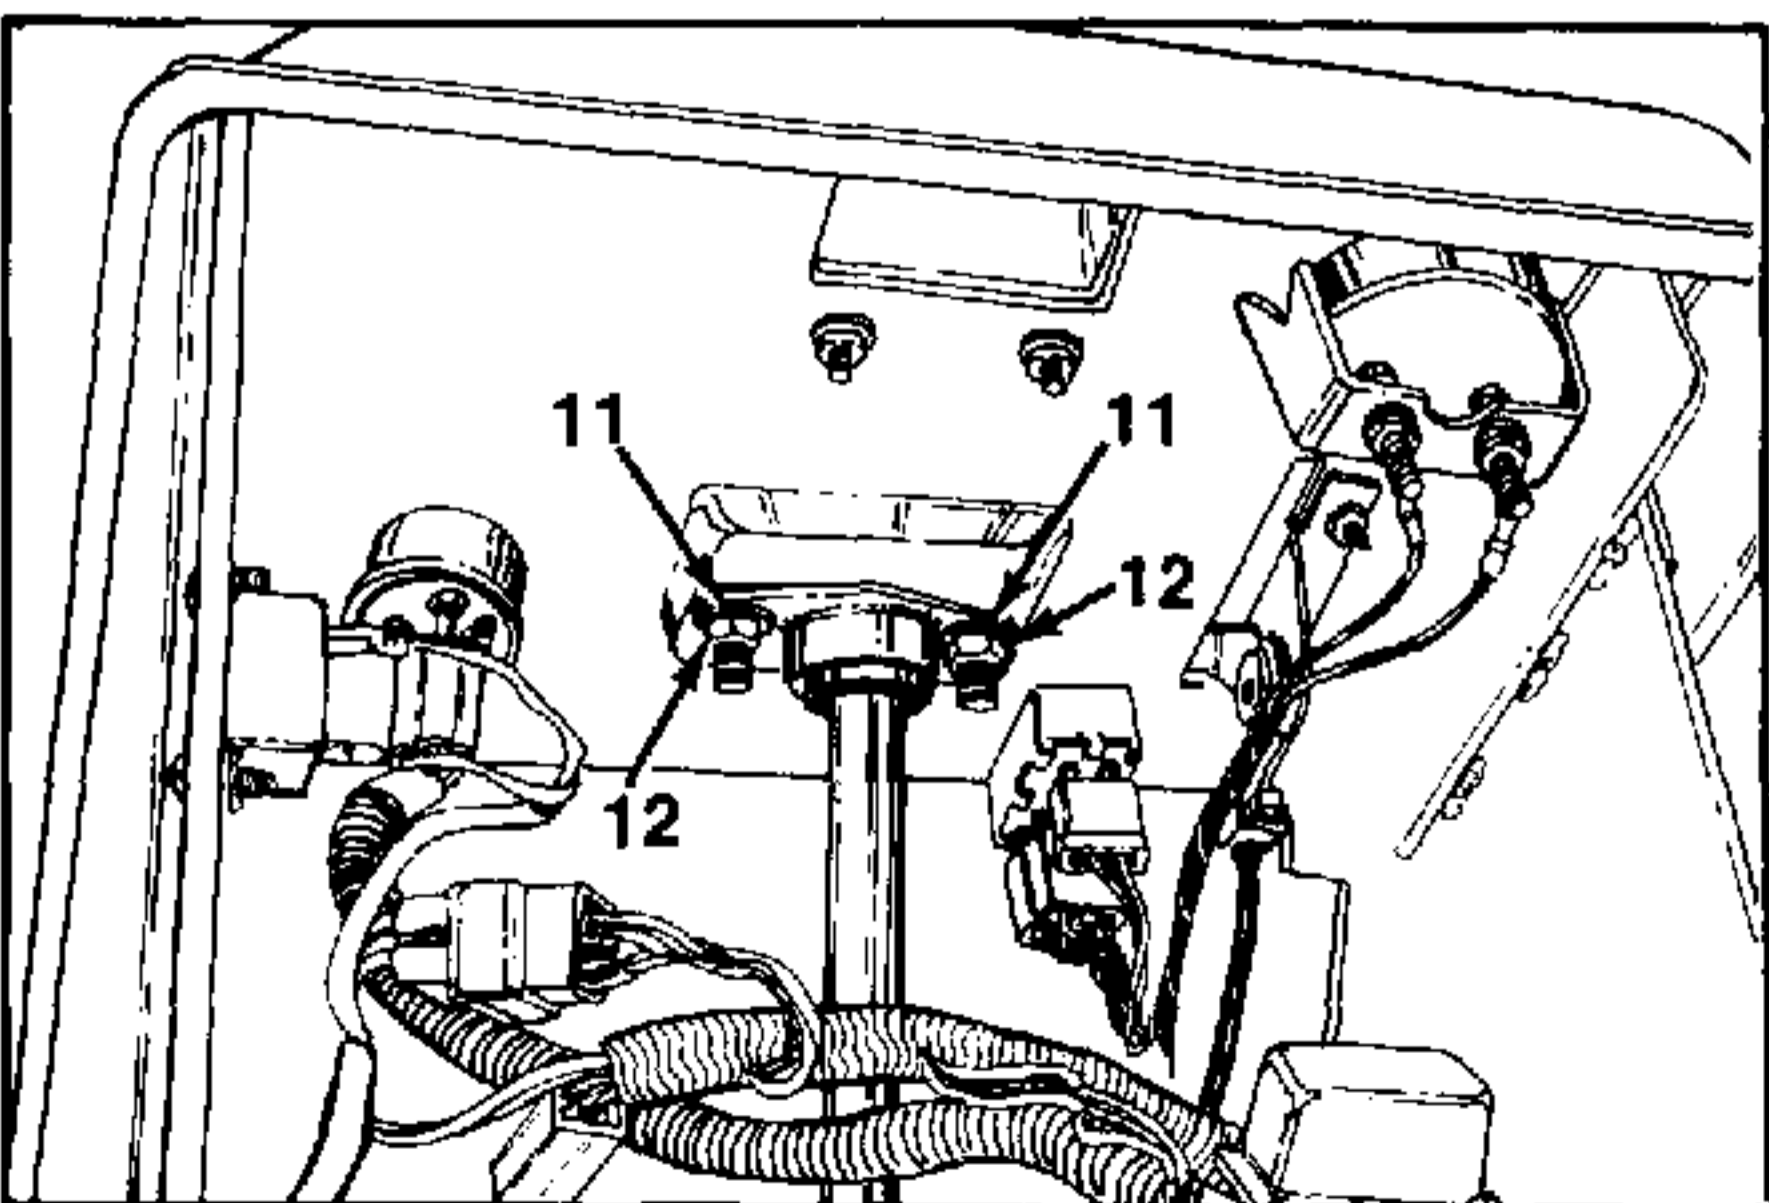

FIGURE 6.
8. Remove two hex nuts (Ref. 12) and lock washers (Ref. 11) from the inside of dash assembly at steering shaft bearing. See figure 6.